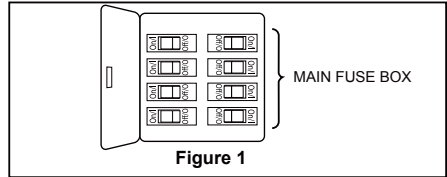
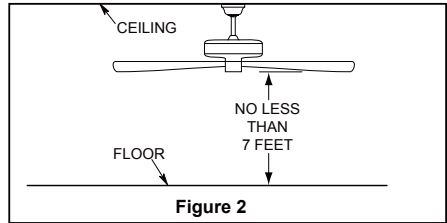
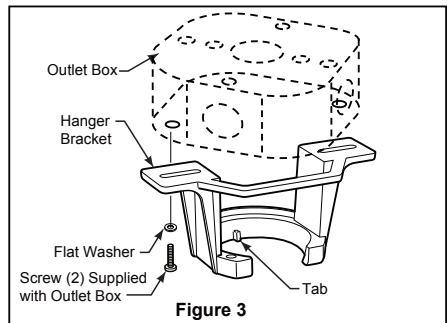

Figure 1
Figure 2
Figure 3
Your new ceiling fan will require a grounded electrical supply line of 120 volts AC, 60 HZ, 15 Amp Circuit. Electrical code requires use of a fan-rated outlet box to support the extra weight and motion associated with a ceiling fan. A fan-rated box will be labeled as such and typically supports up to a 70lbs ceiling fan. Fan-Rated Outlet Boxes vary in ratings and design. Ensure the ratings of your ceiling fan outlet box meet the requirements for the ceiling fan being installed. Figure 1, Figure 2 and Figure 3 depicts different structural configurations that may be used for mounting the outlet box.
Low-profile use (Figure 1)
Deep-profile use (Figure 2)
Brace use (Figure 3)
1. Remove and discard the three rubber/screws motor stops from the motor assembly. (Figure 1)
2. Remove the hanger ball portion from the downrod/hanger ball assembly by loosening the set screw in the hanger ball until the ball falls freely down the downrod. Remove the pin from the downrod, then remove the hanger ball. Retain the pin and hanger ball for reinstallation in Step 7. (Figure 2)
3. Remove the hairpin clip and clevis pin from the bottom of the downrod. Retain the pin and clip for reinstallation in Step 5. (Figure 3)
To avoid possible fire or shock, be sure electricity is turned off at the main fuse box before hanging. (Figure 1)
The fan must be hung with at least 7' of clearance from floor to blades. (Figure 2)
1. Securely attach the hanger bracket to the outlet box (not included) using the outlet box screws and washers supplied with the outlet box. (Figure 3)
1. To set the code on receiver unit, slide dip switches to the same positions as set on the remote control. (Figure 1)
To avoid possible electrical shock, be sure electricity is turned off at the main fuse box before wiring. (Figure 2)
2. Slide the receiver into the hanger bracket before wiring as shown in figure 3.
2. Securely attach and tighten the canopy screw cover over the shoulder screws in the hanger bracket utilizing the keyslot twist-lock feature. (Figure 2)
- ☐ 2. Restore electrical power to the outlet box by turning the electricity on at the main fuse box. (Figure 2)
- ☐ 3. Remove the battery cover from remote control by screwdriver and retain the screw for later. (Figure 3)